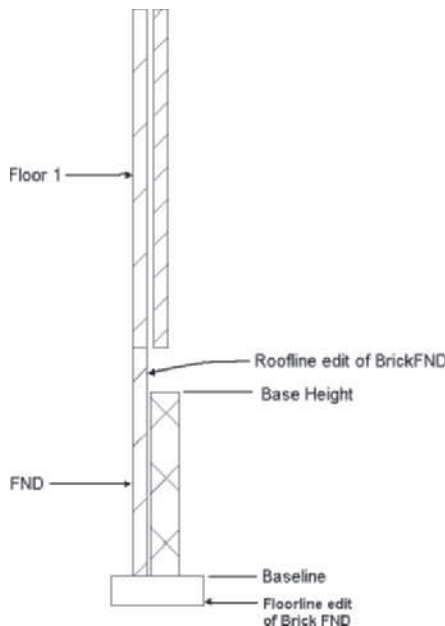

FIGURE 3.97 Wall section of wall for each level
3. In this step, you will revise the levels for the foundation and first-floor plan as shown in Figure 3.97. This project was previously created for a basement; in this step, you will revise the levels for a crawl space. Select the **Project** tab of the Project Navigator and click the **Edit Levels** button to open the **Levels** dialog box. Clear the **Auto-Adjust Elevation** checkbox. Edit Level 1 [G] as follows: Level 1 [G] Floor Elevation = **0**, Floor to Floor Height = **4'-0 [1200]**, Description = **Crawl**. Edit Level 2 [1] as follows: Floor Elevation = **4'-8 [1400]**, Floor to Floor Height = **9'-0 [2700]**. Click **OK** to dismiss the Levels dialog box. Click **Yes** to regenerate all views and dismiss the AutoCAD dialog box.